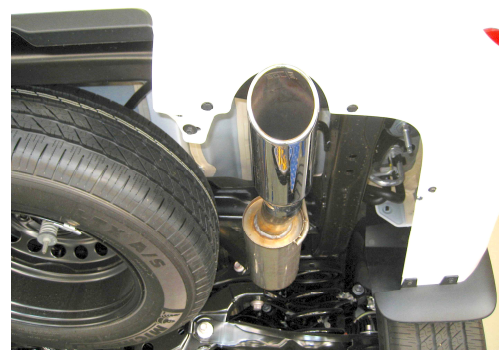

Figure 6
3. Place a clamp over the expanded end of rear muffler assembly and set it into position as shown in figure 6 making sure to install the hanger into the rubber isolator. Do Not tighten the clamp.